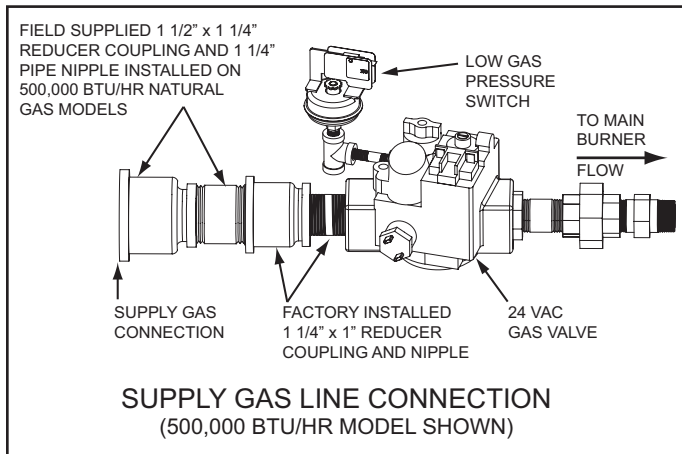

Figure 53
1. The water heaters covered by this manual are shipped from the factory with a 1 1/4" supply gas connection, see Table 1 on page 10. Short pipe nipples and reducer couplings are factory installed to increase the size of the water heater's 24 VAC Gas Valve inlet, see Figure 53.
Install a field supplied 1 1/2" x 1 1/4" reducer coupling and 1 1/4" pipe nipple to accommodate the minimum required 1 1/2" supply gas line as shown in Figure 53 on BTH 500 natural gas models (Series 100).